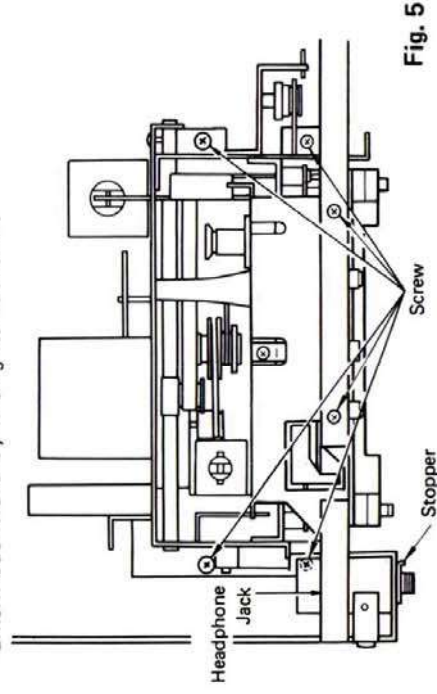

Fig. 5
- 4) Take off the stoper and also the headphone jack shown in Fig. 5.
- 5) Remove the 6 screws shown in Fig. 5.